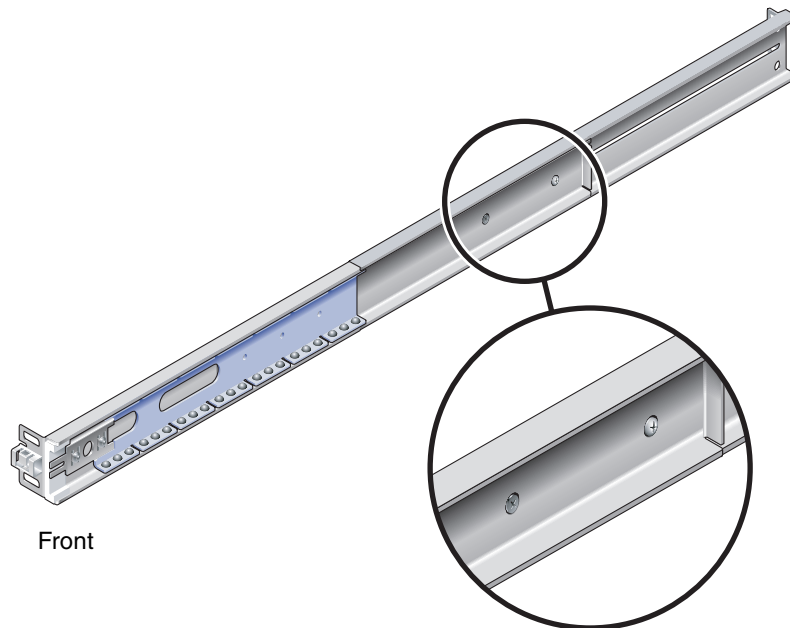

FIGURE 2-4 Captive Screws on the Slide Rail
3. **Loosen the two captive screws (FIGURE 2-4) approximately a quarter-turn on each slide rail.**
- b. Adjust the length of the slide rail by sliding the rear section to reach the outside edge of the rear rack post, then tighten the captive screws (FIGURE 2-4) to freeze the length of the slide rail.